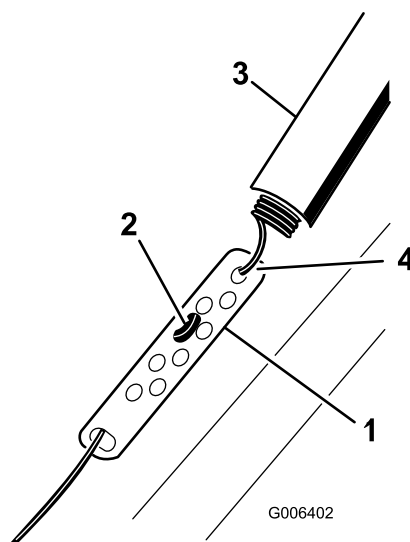

Figure 21
1. Slide up the spring cover and unhook the spring from the adjuster link (Figure 21).